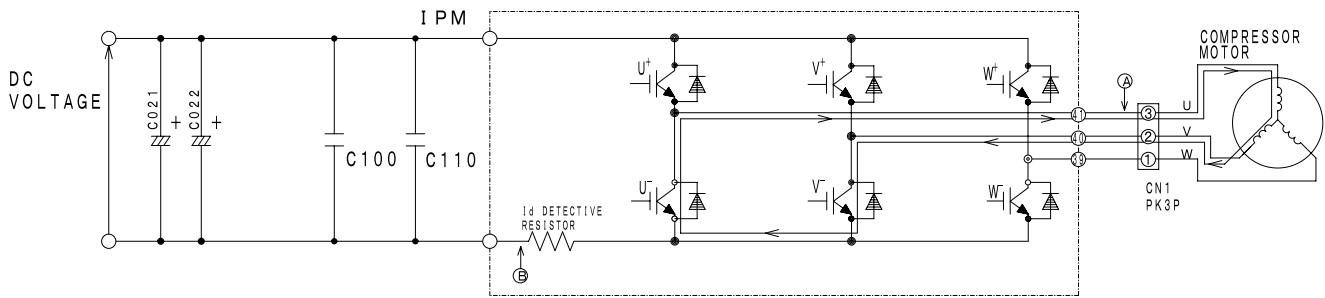

Fig. 4-4 Power module circuit (U⁺ is OFF, V⁻ is ON)
At point ⑥: U⁺ is chopped (OFF), V⁻ is ON (circuit in Fig.4-4)
- (2) When U⁺ transistor is OFF: (by inductance of motor coil) U coil → V coil → V⁻ transistor → Return diode → Point ⑥ (Fig. 4-4)